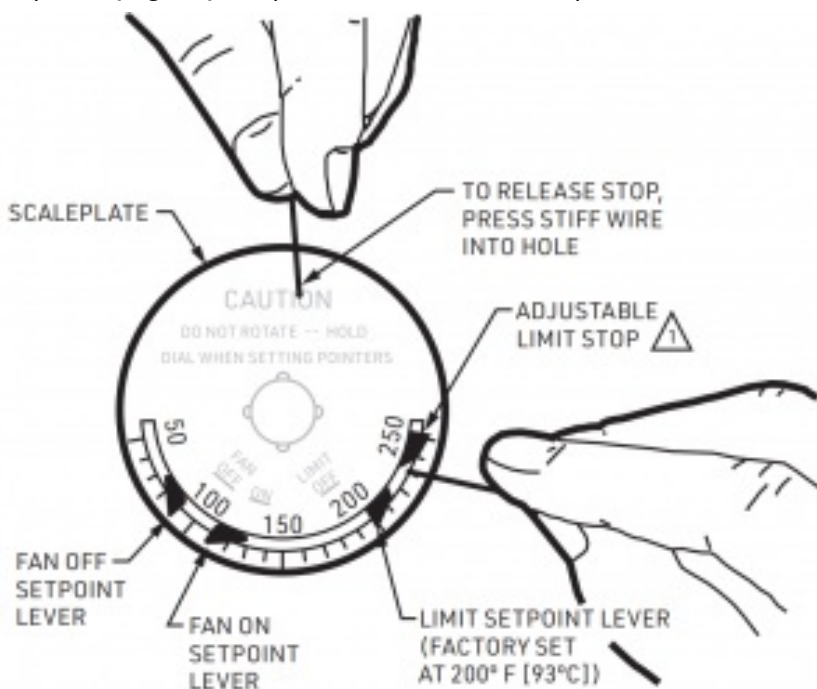

Fig. 12. CHANGING THE HIGH LIMIT STOP.
When adjusting the fan and limit set point lever (**Fig. 12**), hold the scaleplate dial to keep it from turning and straining the sensing element.
1. Push a stiff wire through hole in scaleplate to depress the stop disc not more than 1/16 in. [1.6 mm] to release stop lock (**Fig. 12**). Stop disc is on back of scaleplate.
2. When depressing the stop disc, insert another stiff wire next to limit stop (Fig. 12) and use this wire to move stop to desired setting. If the L4064 is a replacement control, the high limit stop setting should be the same as that of the control being replaced. (Move stop clockwise to lower the setting, counterclockwise to raise it.) Then remove both wires.